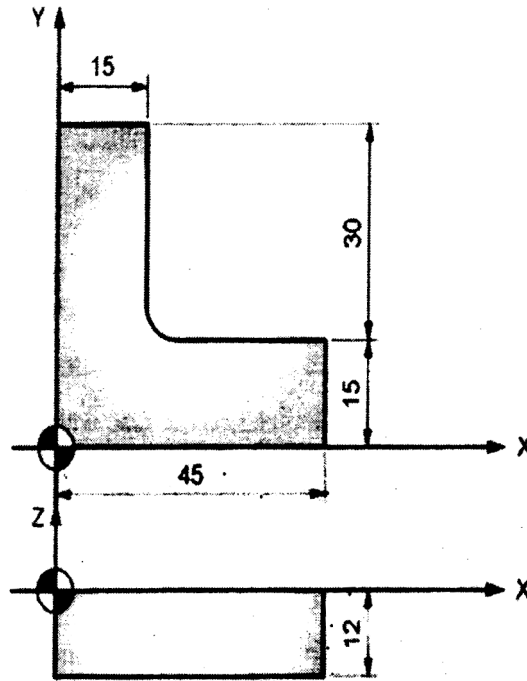

Fig. No. 1
- b) Write part program for a component shown in Figure No.1 on a CNC milling machine. Use feed rate=0.2mm/rev, Speed=600rpm. Assume the suitable data if necessary.